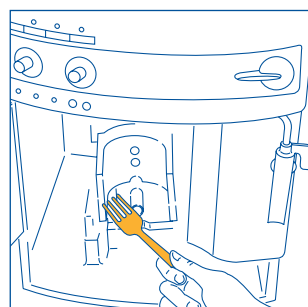

Fig.30
- carefully clean the inside of the machine. To remove the coffee stuck to the parts inside the machine, scrape it with a plastic or wooden fork (Fig. 30) and then pick up all the residues using a vacuum cleaner (Fig. 31);